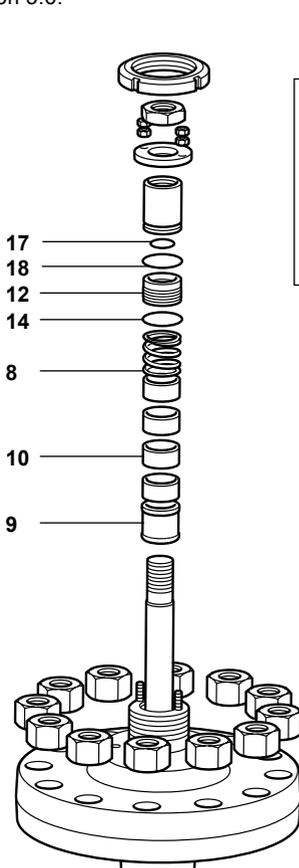

Fig. 14
5.3 Replacement of PTFE gland packings (reference Figure 14)
- Remove the lock-nut from the stem (20), and withdraw the plug stem assembly (with cage on balanced versions).
- Withdraw the PTFE packing (12) and discard. Remove all metal components, washer (14), spring (8), bearing (9) and spacers (10) carefully noting how many components have been removed as it will differ on each valve size. Clean and examine these components replacing any that show signs of damage or deterioration.